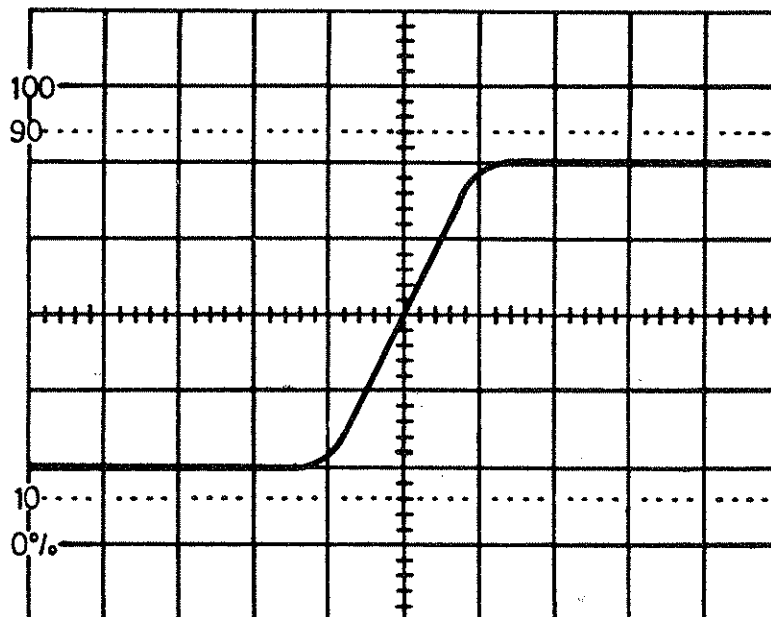

Figure 4-3. Sweep Delay Showing Expansion of Input Signal to Desired Interval
26. Slightly adjust MULTIPLIER to position rise or fall edge in center of screen. Verify that waveform is expanded as shown in Figure 4-3.